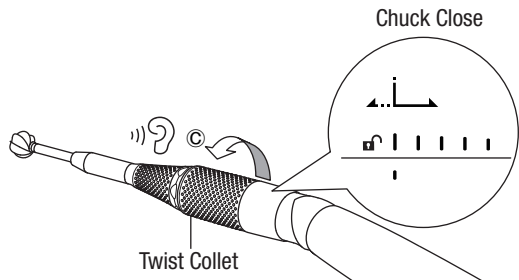

Fig.4
- 2** Rotate the twist collet in the direction of © until it clicks to fix the Cutting Accessory (Fig.4).